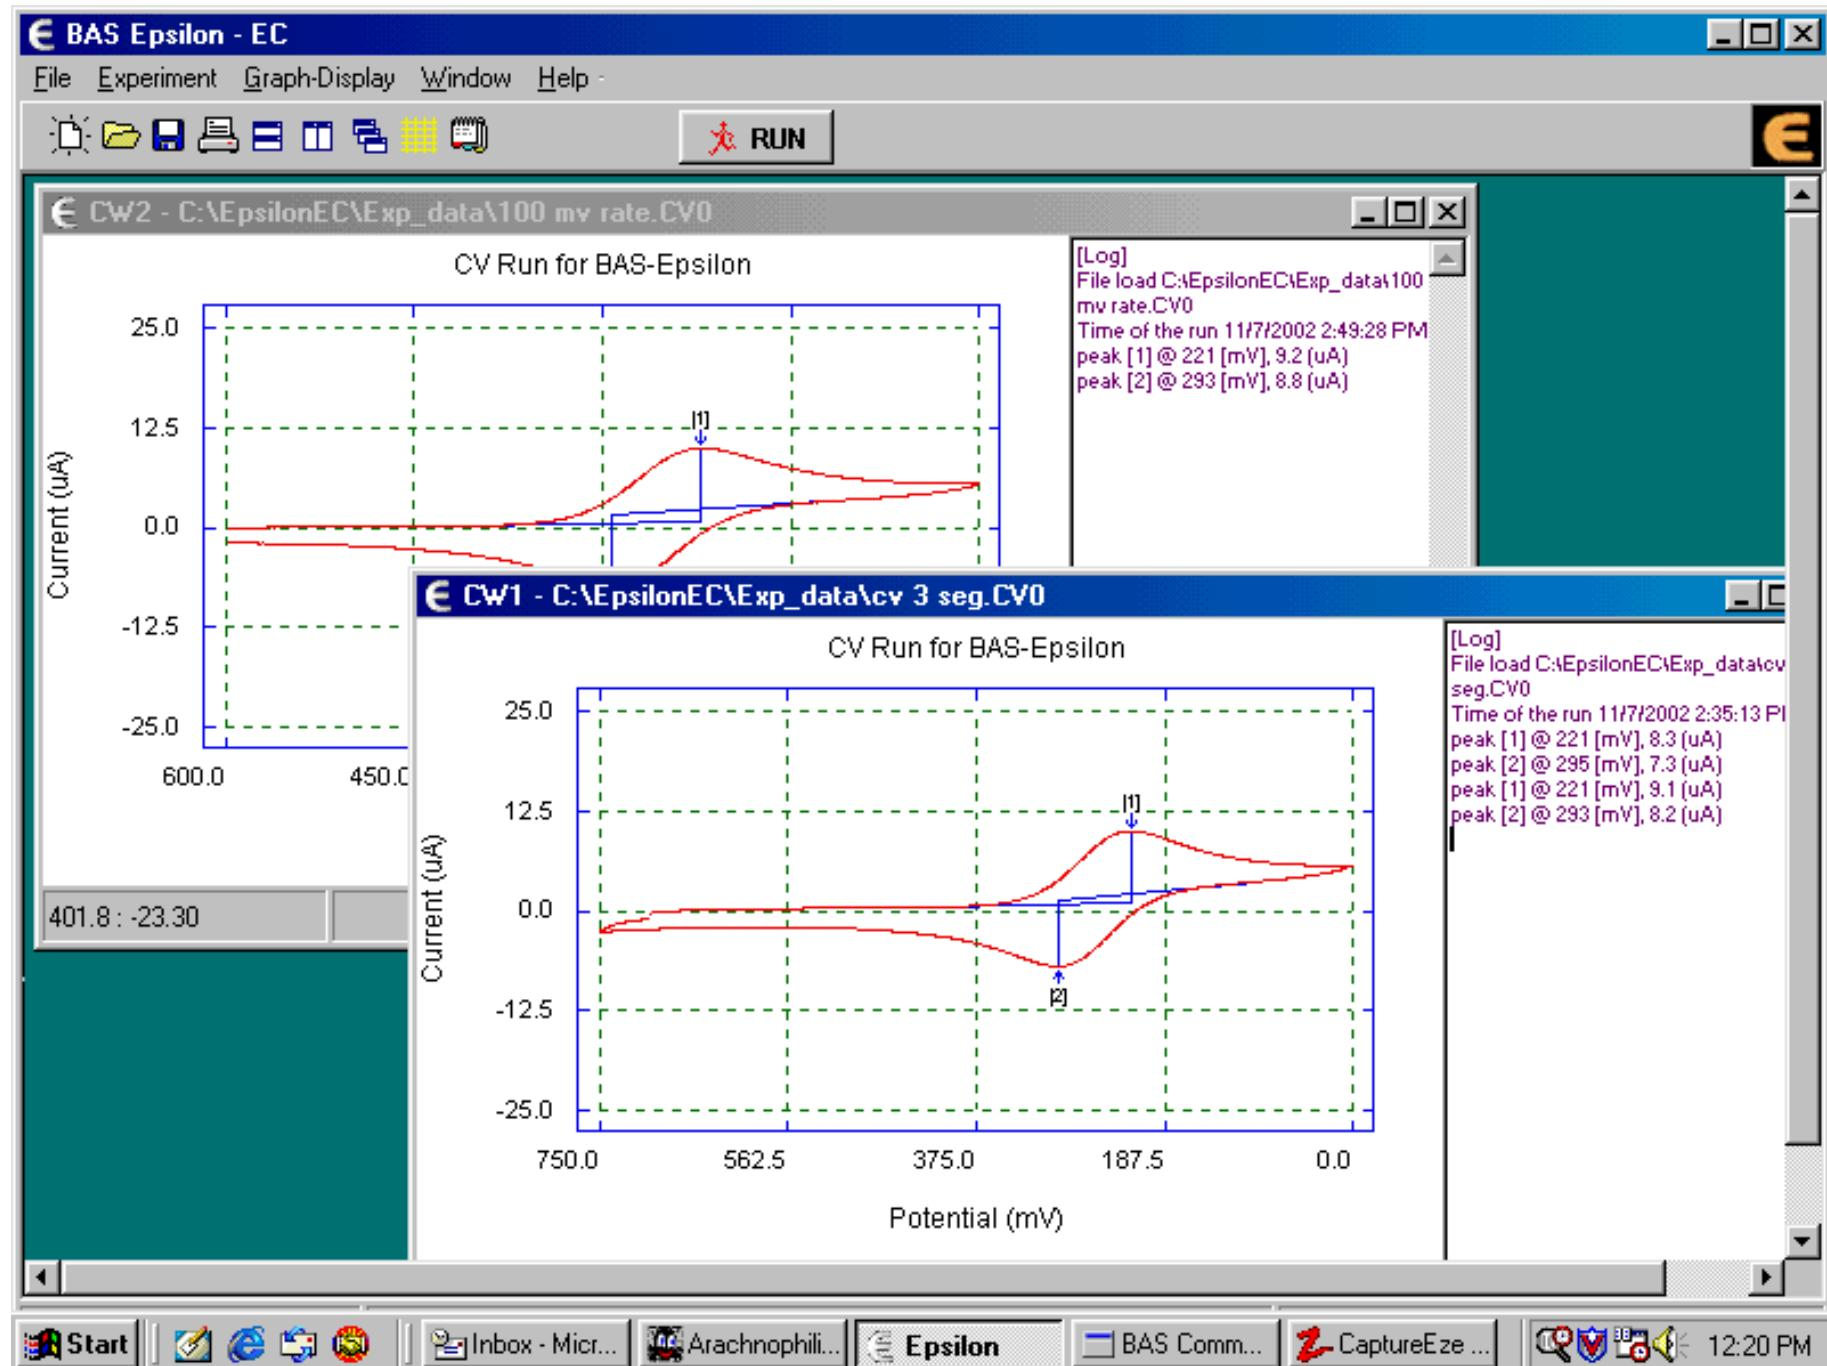

Figure 12.
13. When this experiment has finished, *both* experiment windows are displayed in the main epsilon window (**Figure 12**). Up to 6 experiment windows can be displayed. However, only one experiment window can be active at any one time, and any epsilon functions and operations are applied only to the data in the active experiment window.